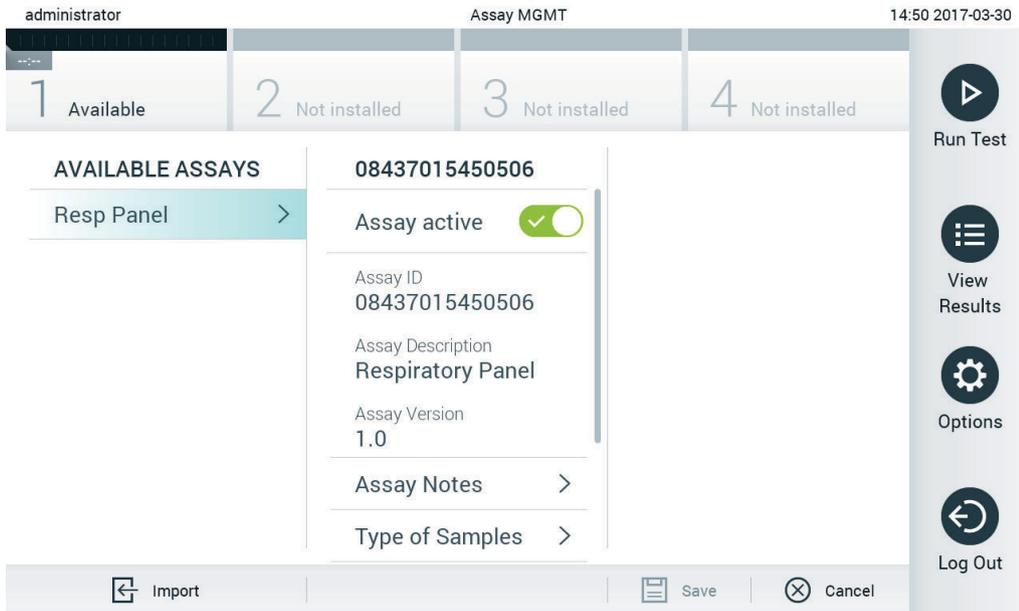

Figure 65. Managing available assays.
7. Press the **Options** button and then the **Assay Management** button to access the **Assay Management** screen. The available assays are listed in the first column of the content area (Figure 65, next page).